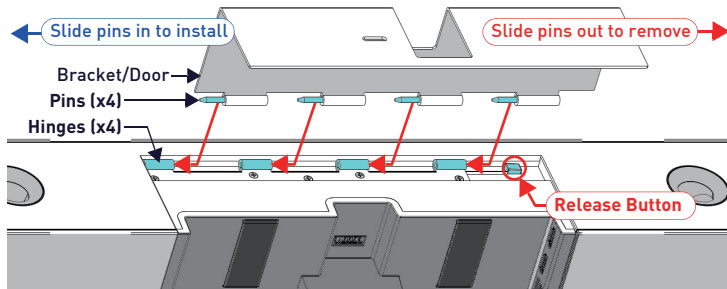

FIG. 3 ACV-2100 BOTTOM VIEW - REMOVING THE WALL MOUNT BRACKET
- Lift the Wall Mount Bracket off of the hinges to remove (FIG. 3):
- Attach the ACV-2100 to the Bracket/Door by sliding the pins on the Bracket into the hinges on the rear of the main unit (see FIG. 3):
- Carefully slide the pins into the hinges, until the Bracket/door snaps into place. **Note:** Press the door into place so that the last pin depresses the Release Button, allowing the pins to slide into the hinges (see FIG. 3).